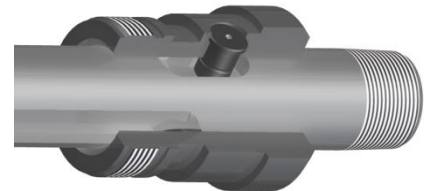

Fig. 6
K-3.20) Align holes in J-pin body (23) with lower landing in slot in J-slot mandrel (20). Install J-pins (15) into J-pin body (23) (Fig. 6).